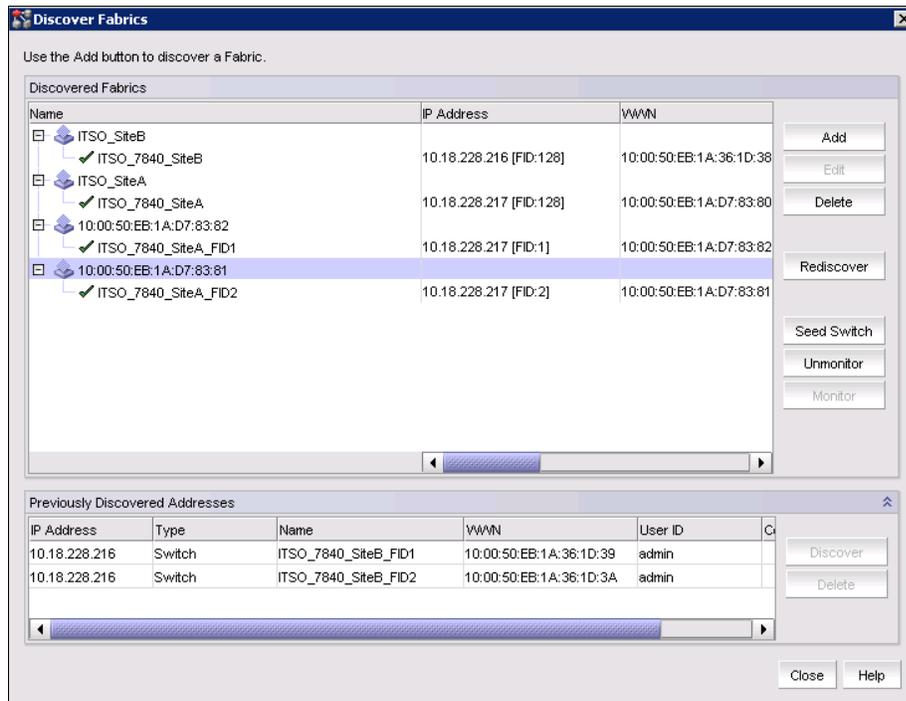

Figure 6-16 Result of adding fabric discovery
18. Click **OK** to add these fabrics and see the results (Figure 6-16).